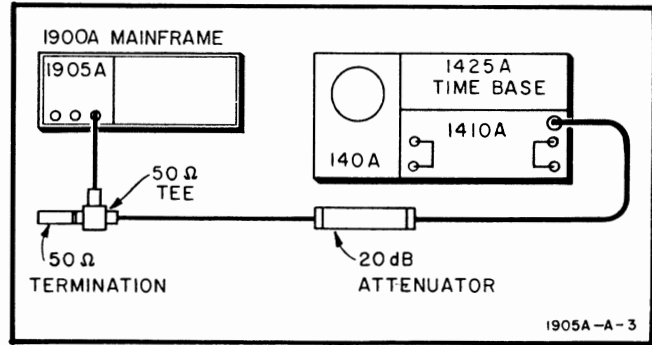

Figure 5-1. Output Pulse Test Setup
a. Connect the equipment and accessories as shown in Figure 5-1.
- a. Set up the equipment as shown in Figure 5-1.